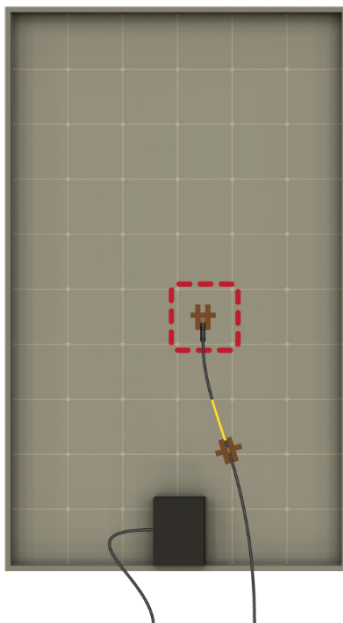

FIGURE 7-2. 110PV mounted to a PV module using Kapton tape
If the temperature might exceed 70 °C, use Kapton tape (pn #27015) to secure the probe to the measurement surface (see FIGURE 7-2). To ensure that the probe is adequately fastened to the measurement surface, use three strips of Kapton tape:
2. Place the other strips of tape on the first strip of tape and rub the tape surface to remove bubbles. The three strips of tape should form an “H” (FIGURE 7-2).